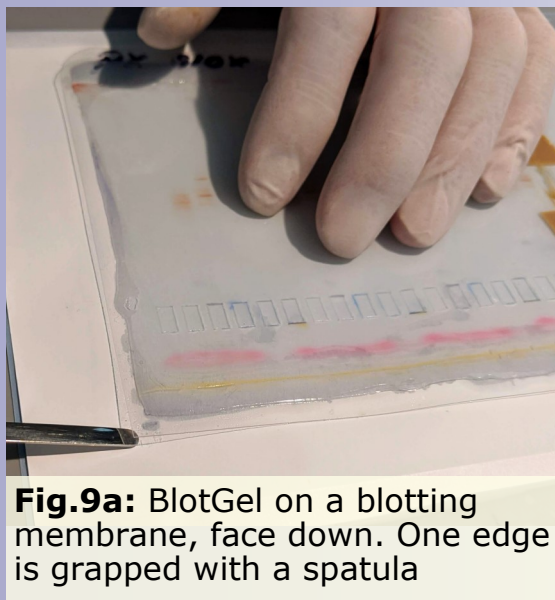

Fig.9a: BlotGel on a blotting membrane, face down. One edge is grapped with a spatula
6. Grab one edge of the support and lift it slowly with a steep angle like in figures 9a and 9b. Use a spatula to hold down the gel itself if needed.